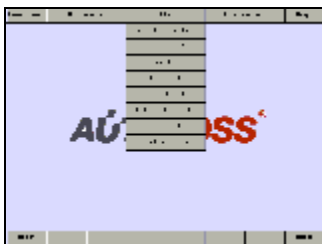

Fig.2.13
- ⑥ Click **Cancel Projection** under **Settings** menu to exit the PC projection mode (Fig. 2.13)